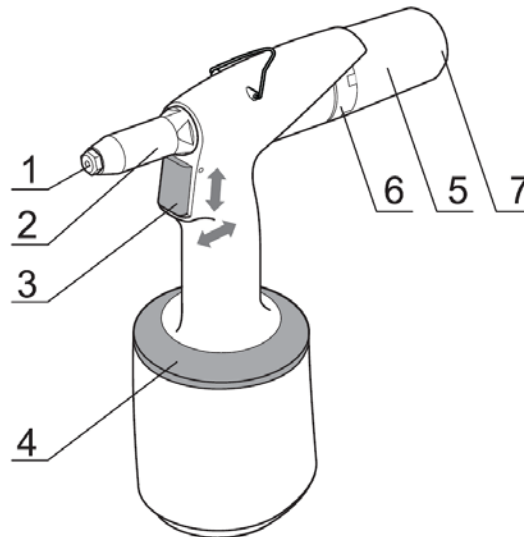

Fig. 1
Put and push the mandrel container /fig. 1 - pos. 5/ into the ring relief /fig.1 – pos.6/ end-to-end, thus you depress the arrestment element, and turn to position 1 or 2. The mandrel container shall thus be in place. The suction shall initiate in position 2. Relative position of the mandrel container with air outlets /fig.1 - pos.7/ and the ring relief /fig.1 – pos.7/ ensures that the outlet air pressure goes out in a suitable direction (e.g. Off ward the operator of the tool).